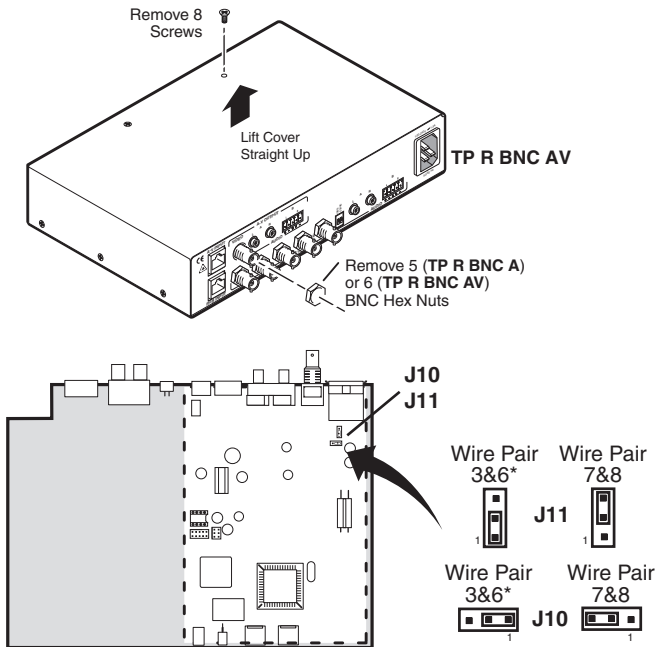

Figure 2-2 — Audio jumper configuration
1. Remove three screws on each side and one or two screws on top of the cover (figure 2-2).
4. Locate J10 and J11 on the composite video printed circuit board. See figure 2-2.